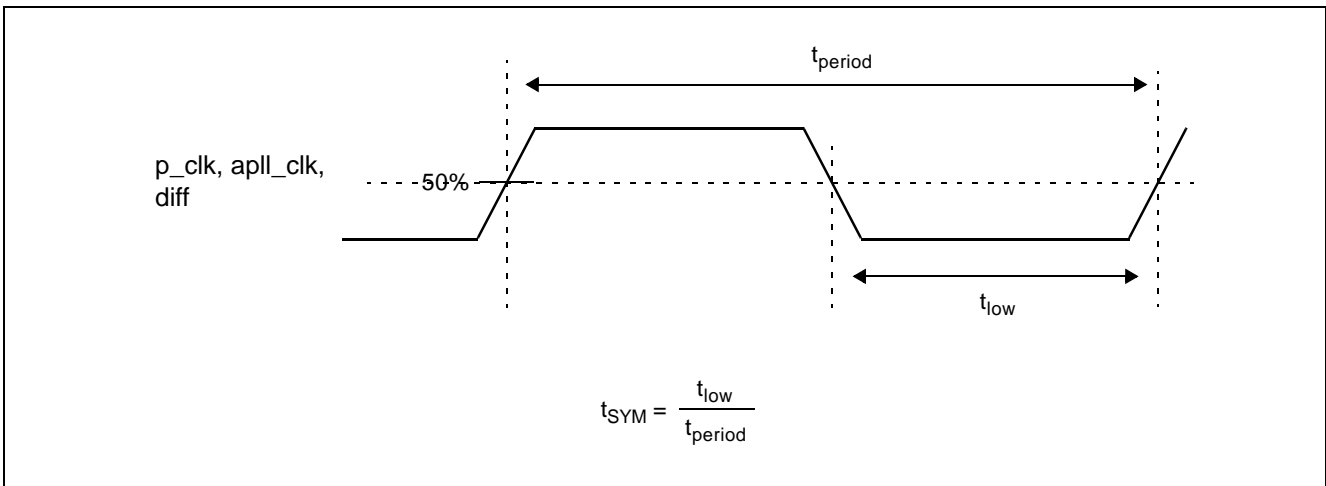

**Figure 29 - Input To Output Timing**
**AC Electrical Characteristics\* - Input To Output Timing For Ref<2:0> References (See Figure 29).**